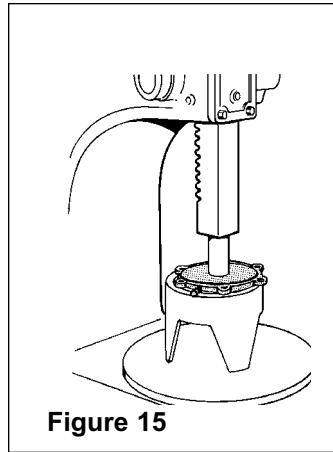
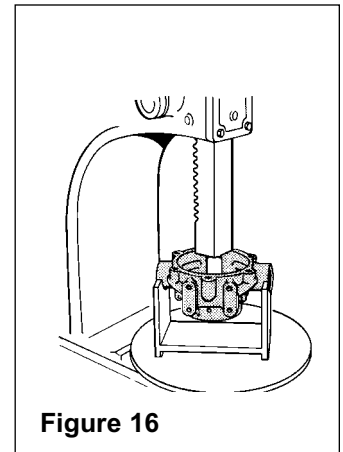

Figure 15
Figure 16
8. To remove the ball bearing – place the end plate in a end plate support fixture with the front of the end plate down (See Figure 15). Center bearing support tool and slowly press bearing out of casting. Repeat procedure to remove bearing from pump body (See Figure 16) using body support fixture.